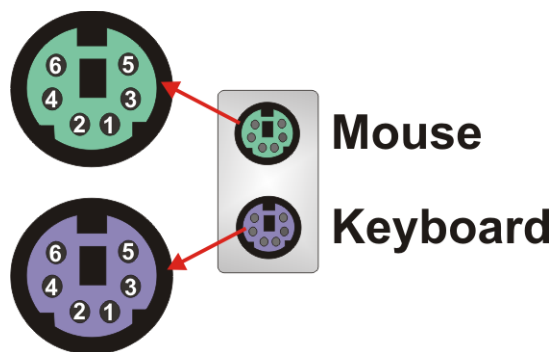

Figure 4-20: PS/2 Pinouts
- CN Pinouts:** See **Figure 4-20** and **Table 4-19**